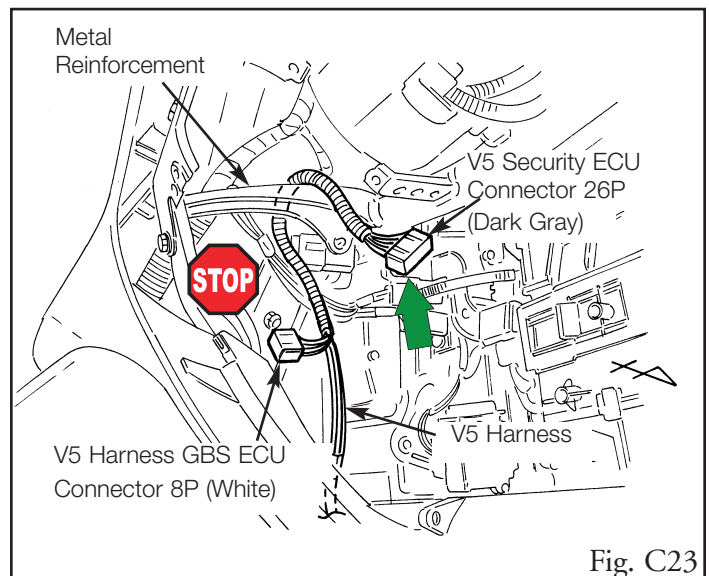

Fig. C23
28. Route the V5 harness up toward the instrument panel. (Fig. C23)